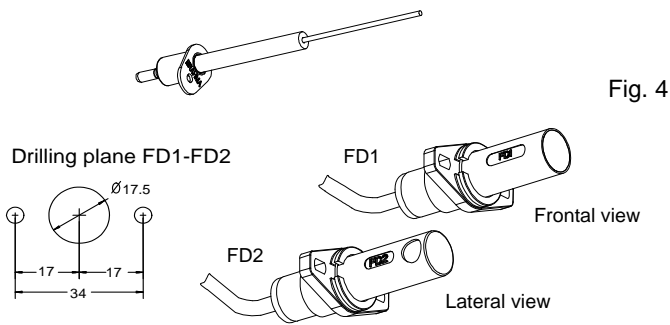
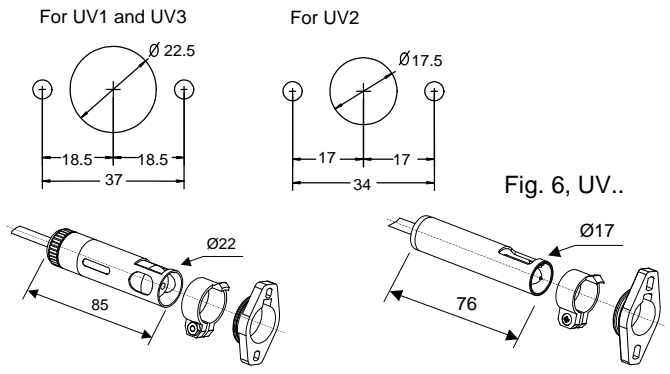
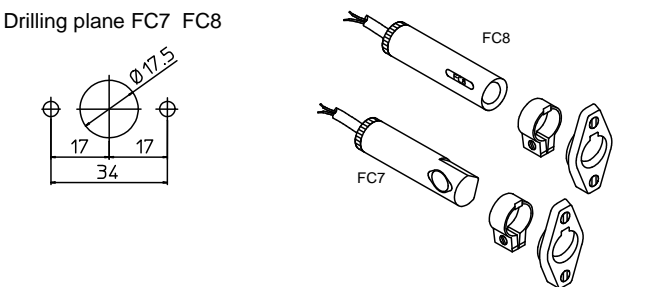

Fig. 5, FD..
Fig. 6, UV..
Fig. 7
- Flame detection in gas appliances, BTXXXG, is based on the rectification principle of the flame and managed by electrodes (fig. 4); technical features in datasheet 4066. In appliances where the temperature is very high and so the detection electrode may be compromised, it's possible to use sensors FD1/S BT - FD2/S BT (fig. 5) or UV.. sensors (fig. 6).
- For BTXXXO in fuel oil applications, the sensors FD1D BT - FD2D BT (fig. 5) or UV.. sensors (fig. 6) can be used only in blue flame appliances; while photocells FC11, FC13, FC14 (fig. 7 e 8) or FT11, FT13 photo-transistors can be used only in yellow flame appliances.